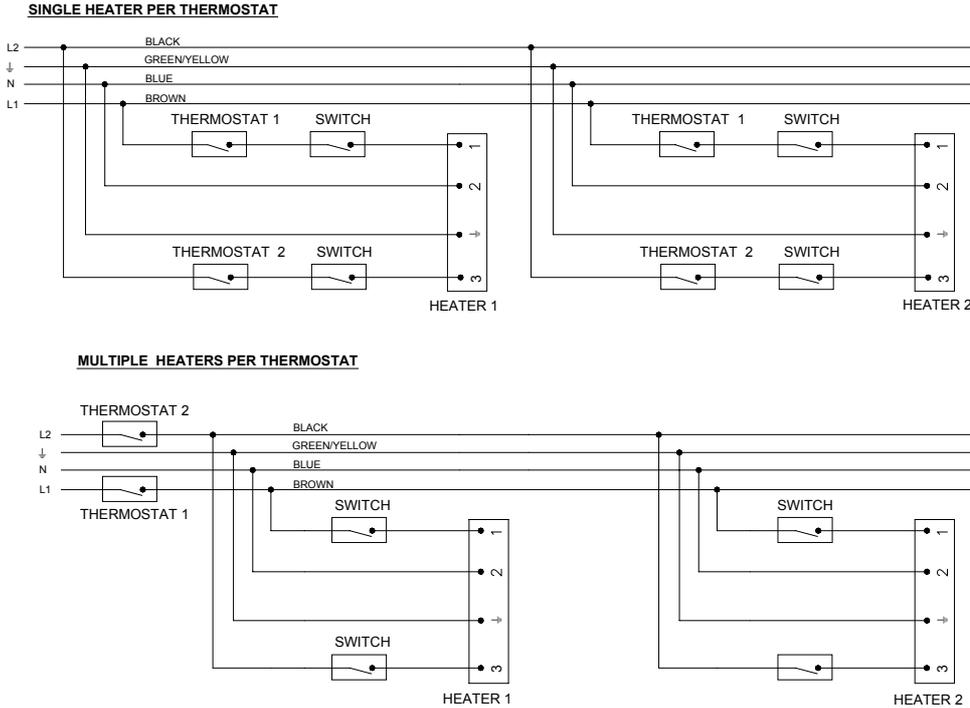

Fig. 4
Three core and earth PVC covered flexible supply cable (0.5mm2 - to National or Local standard specification) must be used, with connections made as shown in Fig. 4.
5.1.1.3 If the appliance has a thermostat fitted in the electrical supply circuit, ensure that it is set high enough to demand heat. SRP30-Hi/Lo: ensure that the second thermostat (T2 - see Fig. 4) is set high enough to call for heat also.
5.1.1.10 SRP30-Hi/Lo only: with both burners ignited (see 5.1.3) turn down the temperature setting of the second thermostat (T2-see Fig. 4) and observe that the burner furthest from the Control Valve Assembly is extinguished. Re-ignite the burner by turning up the temperature setting of the second thermostat (T2).